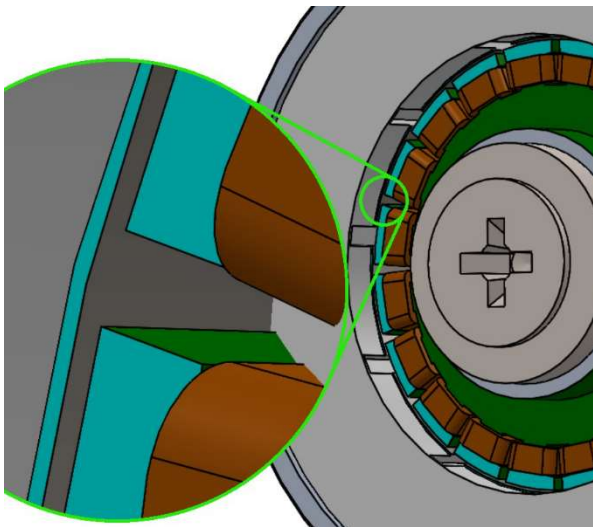

Figure 8: Resolver rotor alignment
5. Mount the resolver stator (3) to the mounting flange of the resolver bracket (7). While holding the resolver stator (9) down, use DIN 914 set screws (8) to bolt it down from the side. Using threadlocker glue supplied with the kit on the threads is recommended.
6. Make sure all the highlighted surfaces (blue) in *Figure 8* are aligned in one plane.